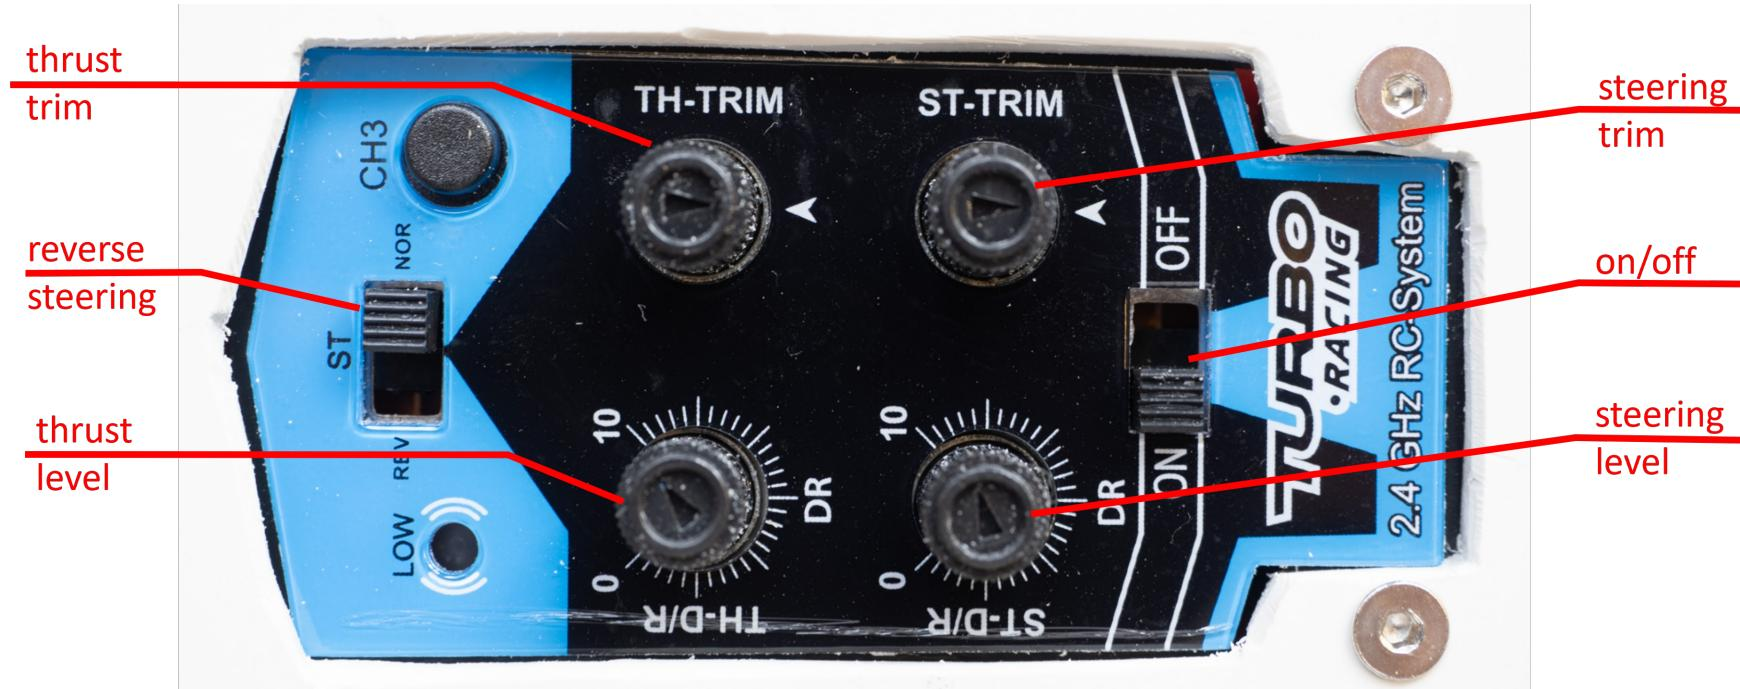

Figure 2: RC Buttons
- (a) Adjust RC knobs thrust trim and steering trim to the neutral center positions, as depicted in Figure 2